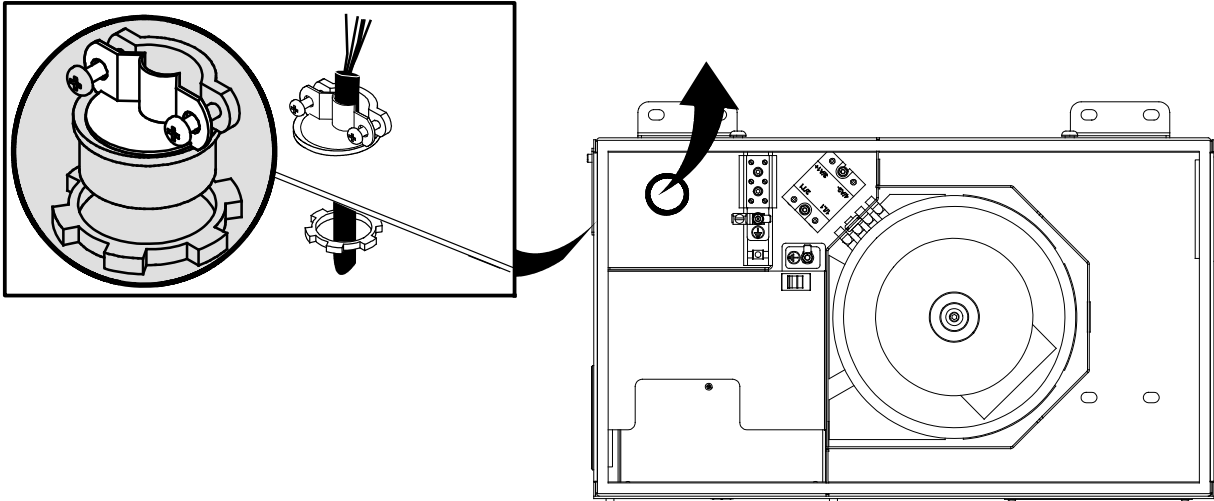

Figure F-8 Cable clamp installation
- See Figure F-8. Remove the 1-inch conduit knockout from the transformer and install the cable clamp (P/N 331872) that is provided in the installation kit.